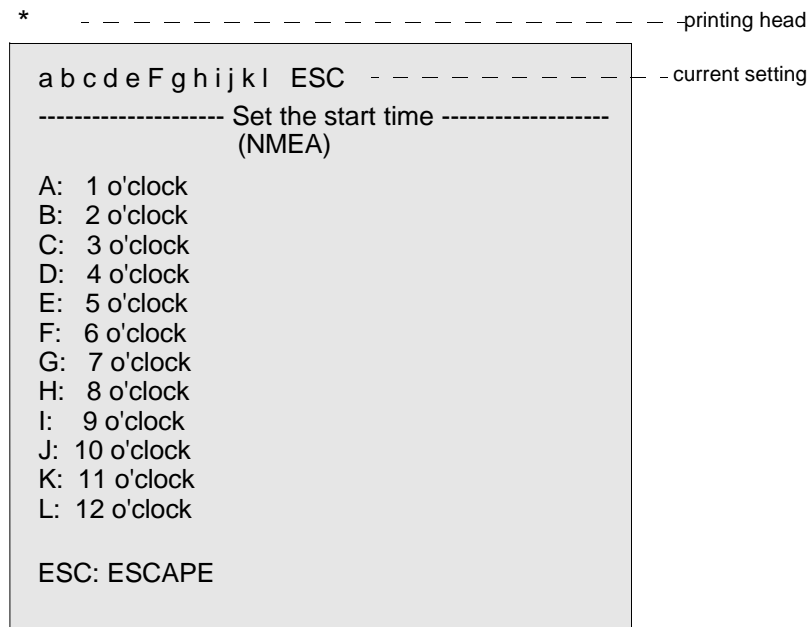

Figure 22. Main Menu Printout
59. After selecting a print interval, press ENT (figure 22). Then, PRINT START TIME MENU is printed. (If A, B, or C is selected, PRINT START TIME MENU is not printed).